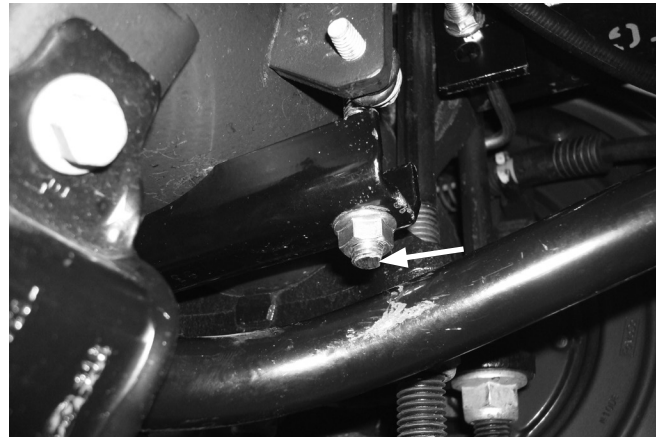

Fig. 20
6. On vehicles that have a sway bar, cut the front carriage bolt just below the nut, so it does not contact the sway bar (Fig. 20).